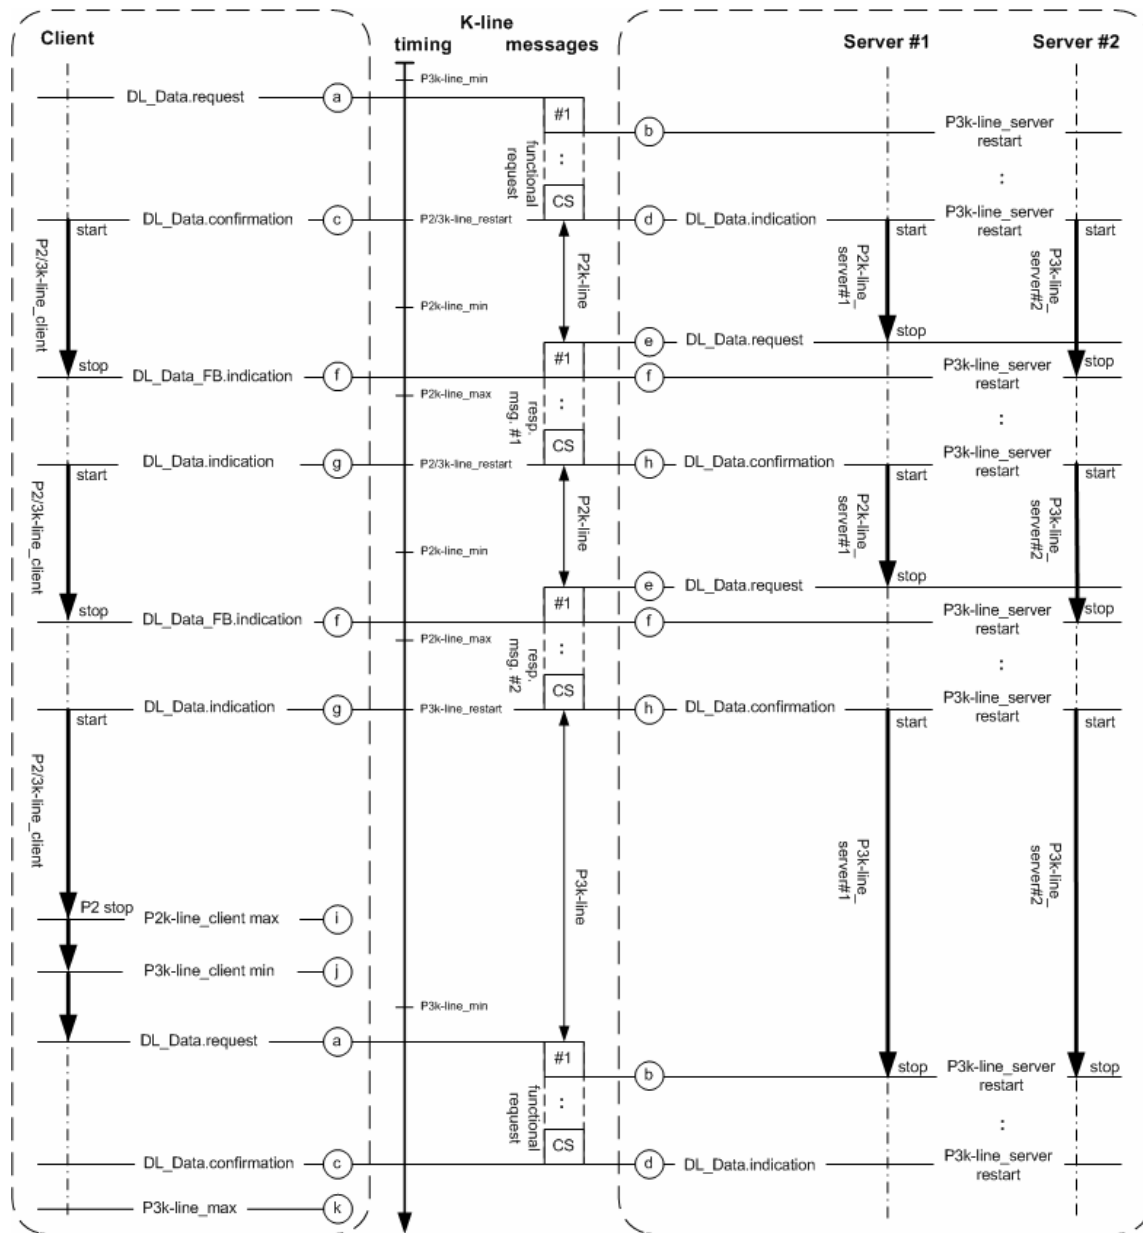

FIGURE 1 - ISO 9141-2 AND ISO 14230-4 PROTOCOL CLIENT AND SERVER TIMING BEHAVIOUR
This sub clause provides an implementation example for client/external test equipment and server/ECU. It is assumed that the client (external test equipment) communicates to a vehicle with two (2) emission-related OBD servers (ECUs). The client requests a CVN, which is only supported by server #1 (ECU #1) with two (2) response messages. Server #2 (ECU #2) is not flash programmable. Figure 1 graphically depicts the timing handling in the client and two (2) servers for a functionally addressed request message. A description follows the figure that references the points marked in Figure 1.
From a server point of view, there is no difference in the timing handling compared to a physically addressed request message. The server shall reset the P3K-line timer value on each received byte regardless of whether the byte is part of a request message or a response message from any another server or an echo from its transmit line. There are several methods of how a server could implement the timing handling. The implementation of timing parameters is not part of this document but an important system supplier responsibility. Some general server timing parameter implementation guidelines are described in this sub clause. The server time stamps each receiver interrupt event and restarts/resets the P3K-line\_server timer or timing value, e.g. ISR time stamps received byte, and processing of the received information is performed outside the ISR. For simplification of the diagram, the Figure 1 only shows a P3K-line\_server restart after the reception of the first byte and last byte (checksum) of a received message. The P3K-line\_server restart is required on each received byte. The received message can be either a request message from the client or a response message from any other server connected and initialized by the 33 hex address. If the server has received a complete message, it compares the target address with the 33 hex address.
Figure 1 shows the client and two (2) initialized servers connected via K-line (either ISO 9141-2 or ISO 14230-4 protocol). The relevant events for the client and both servers are marked and described.